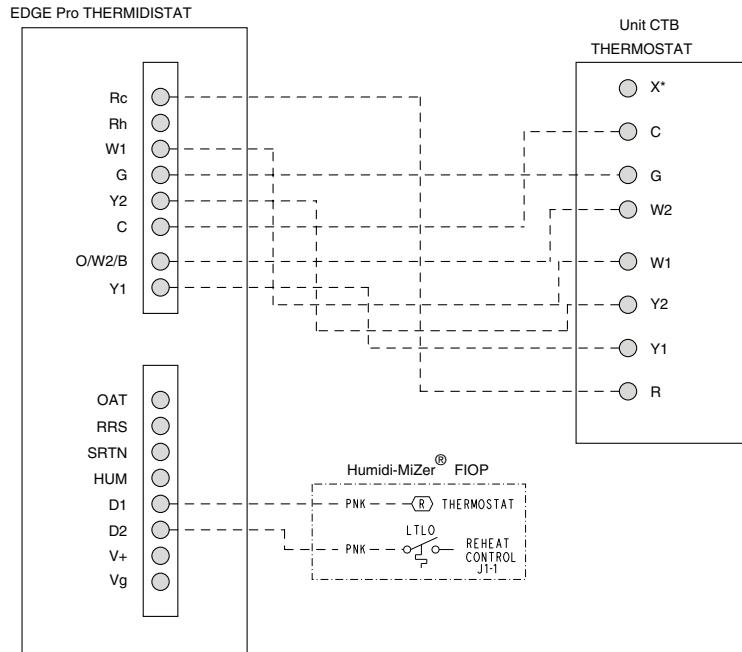

Fig. 54 — Typical Rooftop Unit with Humidi-MiZer® Adaptive Dehumidification System with Edge® Pro Thermidistat Device
3. The Thermidistat has dry contacts at terminals D1 and D2 for dehumidification operation (see Fig. 54). The dry contacts must be wired between CTB terminal R and the PINK lead to the LTLO switch with field-supplied wire nuts. Refer to the installation instructions included with the Carrier Edge Thermidistat device for more information.